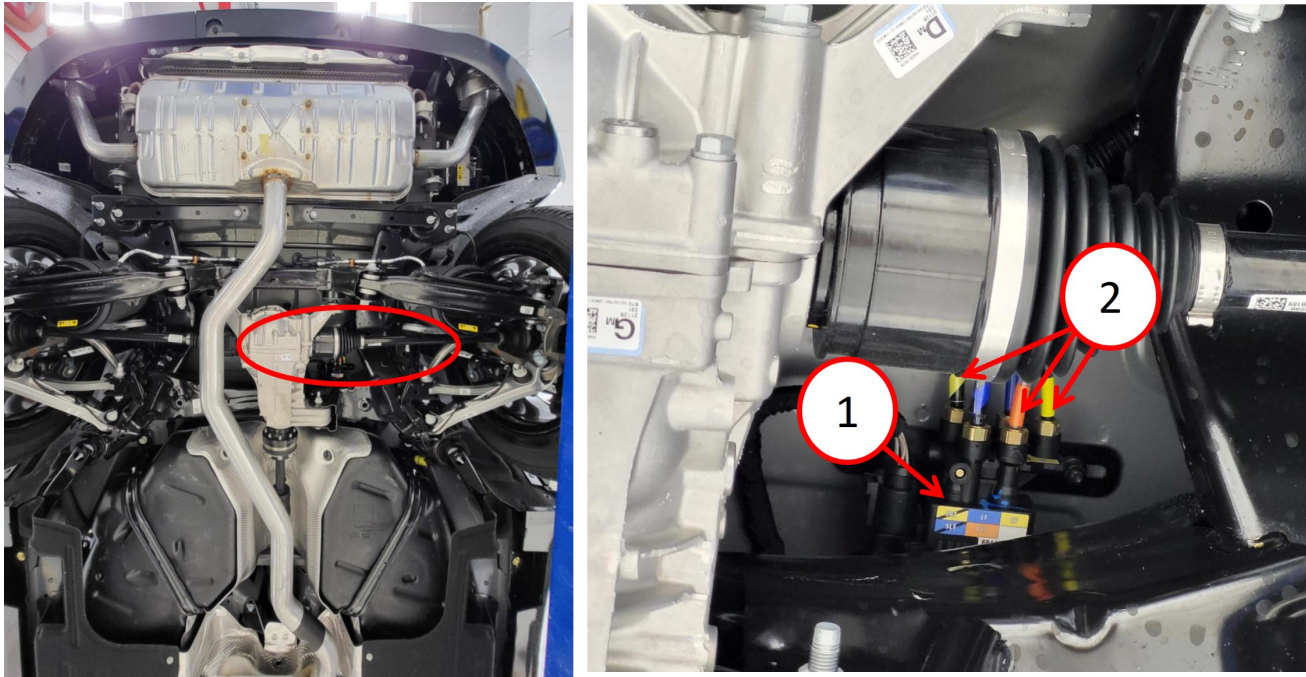

Fig. 1
2. Visually confirm the air lines are fully bottomed out in the fast down leveling valve up to the colored tape (Fig. 1) .
3. Were any air lines not fully bottomed out in the fast down leveling valve and up to the colored tape (Fig. 1) ?
1. Push all five air lines into the fast down leveling valve and up to the colored tape (Fig. 1) .